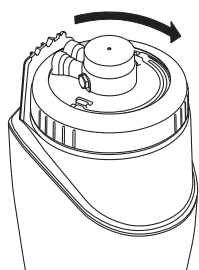

Fig. 40
12. **Screw** on the Retaining Ring until it hits a **STOP**. No exposed threads should be visible below the Retaining Ring. If threads are exposed, the Bracket is not pushed all the way down (Fig. 40).